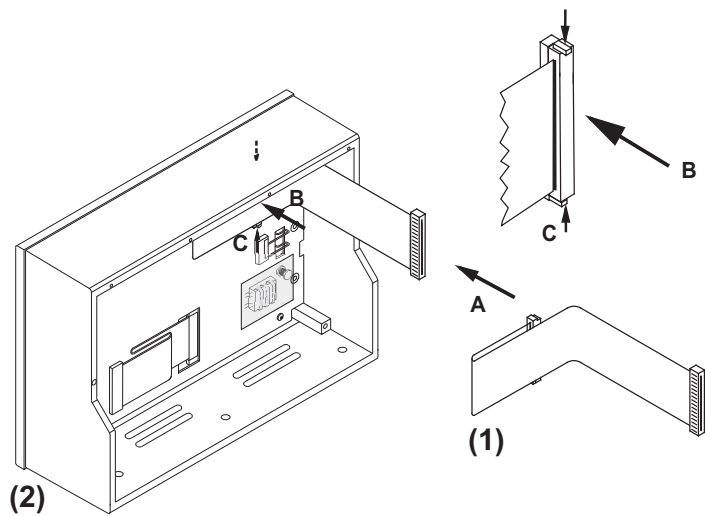

Fig. 8-9: Attaching the connecting flat cable
10. Place again the lastly detached locker of the connecting flat cable (A) to its connector on the display pcb and fasten it with slight pressure (B,C). Avoid damage of the connector, the locker and the connecting flat cable because of canting. Then prepare it like shown in Fig. 8-9.